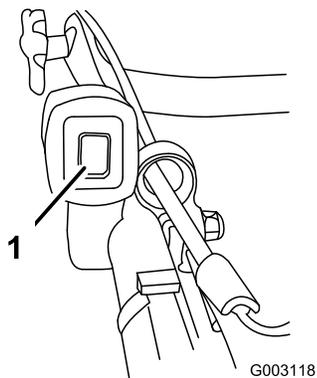

Figure 19
1. Push the ignition toggle switch to the On (“I”) position (Figure 19).